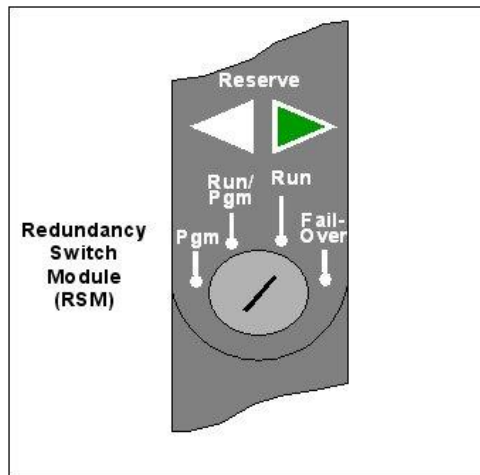

Figure 99 – Modes of operation on RSM
9.3. Modes of operation (Figure 99)